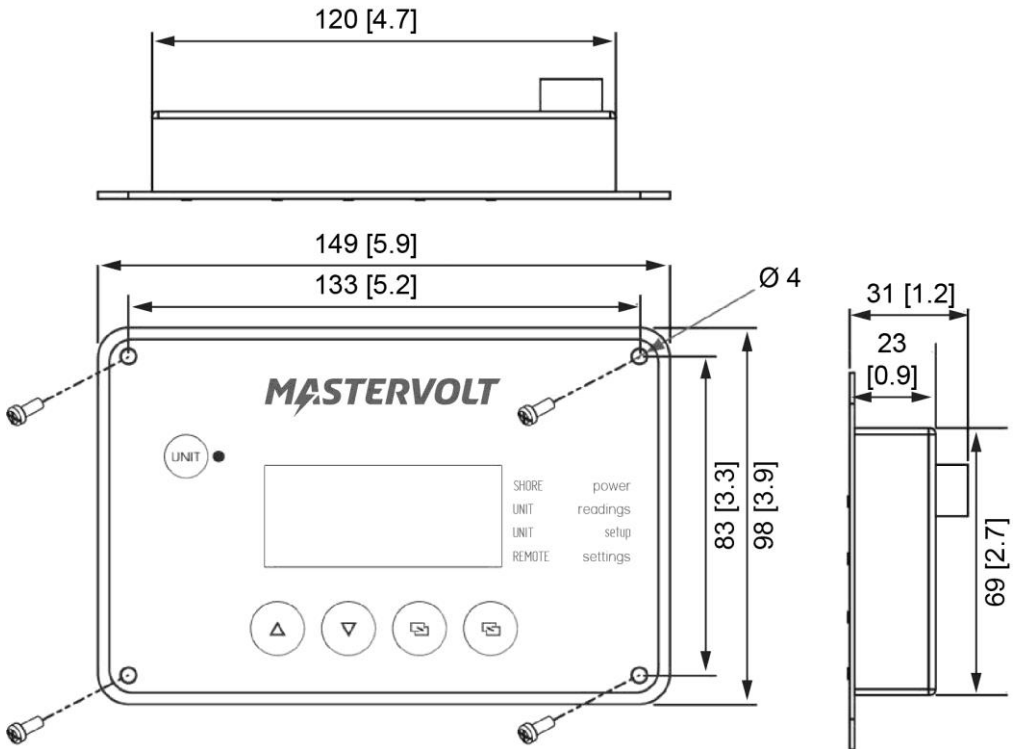

Figure 3. PowerCombi Remote Control Dimensions in mm [inches]
- Make sure there is sufficient space behind the PowerCombi Remote Control for the cable connection. See Figure 3 on page 7 for dimensions.
Step 1. Cut an opening in the mounting surface according to the dimensions given in Figure 3.